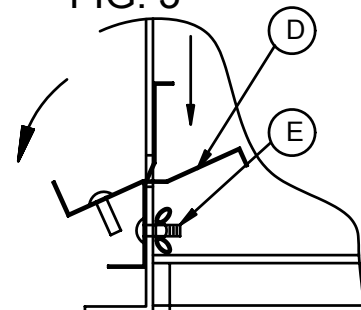

FIG. 4
7. INSERT MOUNTING BRACKETS (D) THROUGH THE RECTANGULAR HOLES AND SWING THE BRACKET'S THREADED STUD (E) INWARD, INTO ELONGATED SLOTS. SEE FIG. 4.
8. CAPTURE MOUNTING BRACKET STUDS WITH WINGNUTS (C). MAKE CERTAIN BOTTOM OF MOUNTING BRACKET IS TIGHT AGAINST SOFFIT MATERIAL BY PULLING DOWN ON BRACKET BEFORE TIGHTENING SECURELY. SEE FIG. 4.
11. REPLACE CENTER REFLECTOR (B) AND SECURE REFLECTOR SCREWS (A).